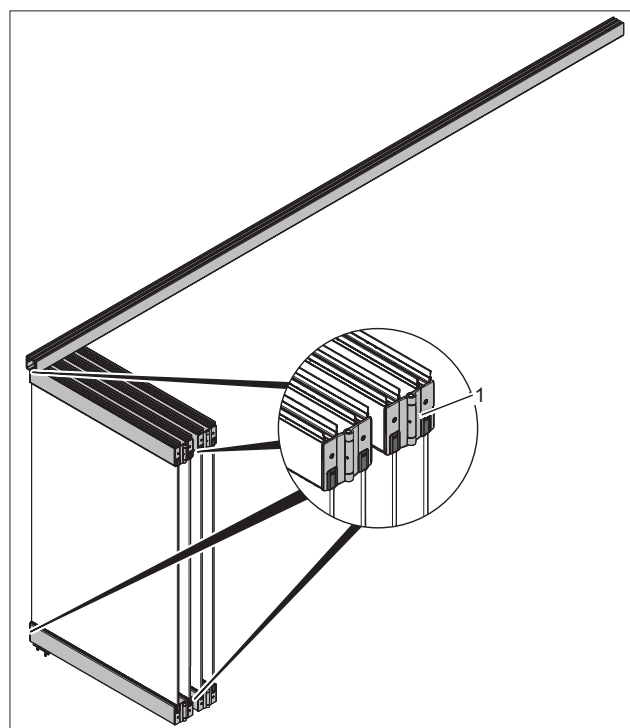

Fig. 29 Installing the hinges – FSW EASY Safe (example illustration)
9. Open the folding sliding wall as shown in Fig. 29.
10. Alternately install the hinges on the installed panels with 3 screws on the front of the door rails/carrier profiles (Fig. 29/1).